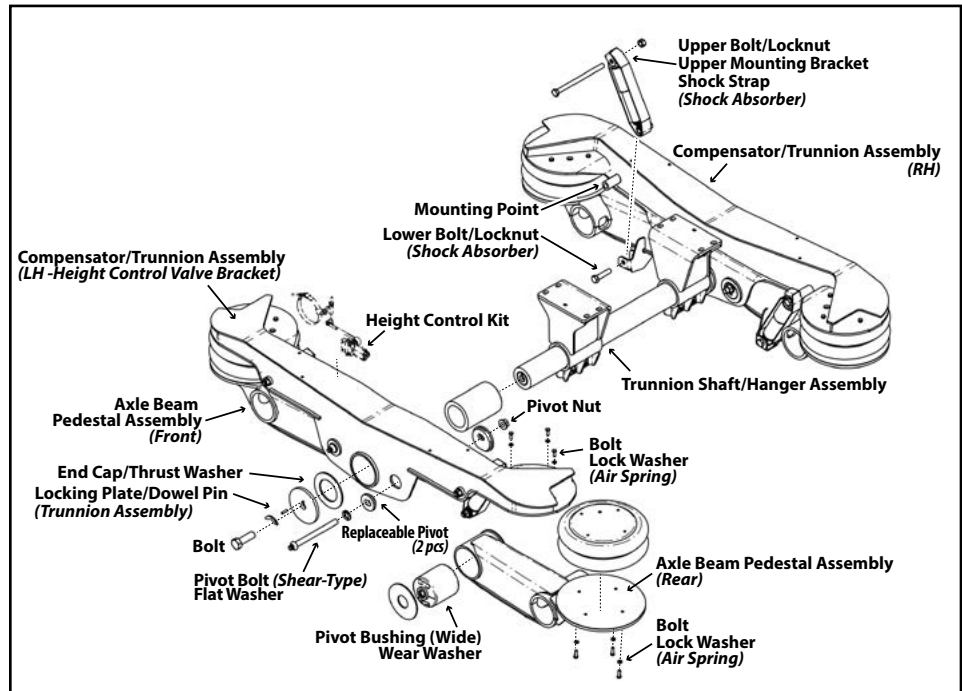

Figure 9. Trunnion and pivot connections hardware (254 wide bushing version shown)
1. Loosen pivot nut (Figure 9).